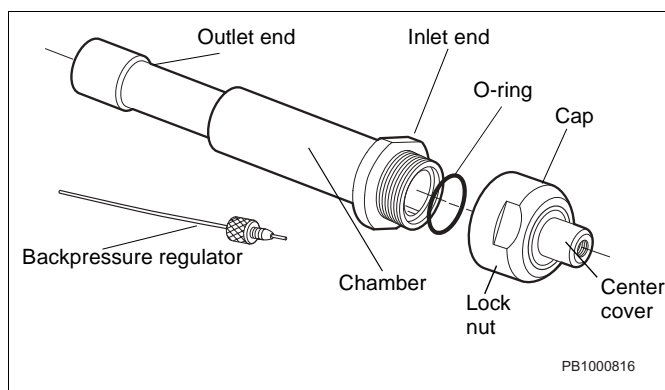

Figure 1 Prep Packing Device Parts
A backpressure regulator comes with the packing device. Figure 1 shows the parts of the packing device and the backpressure regulator.
- A white Teflon® washer recessed in the outlet end of the packing chamber creates a proper seal when a column is screwed in place. (This washer is not visible in Figure 1.)